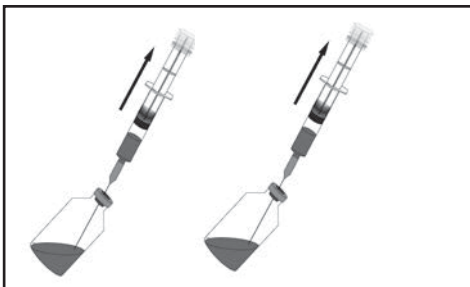

Figure 8.
- 2.1 Draw up the drug using 2 x 60 ml loading syringes, 37.5 ml of drug in each syringe (75 mg total). Leave a small air bubble (1 ml or less) in each of the loading syringes for better mixing. (Figure 8).